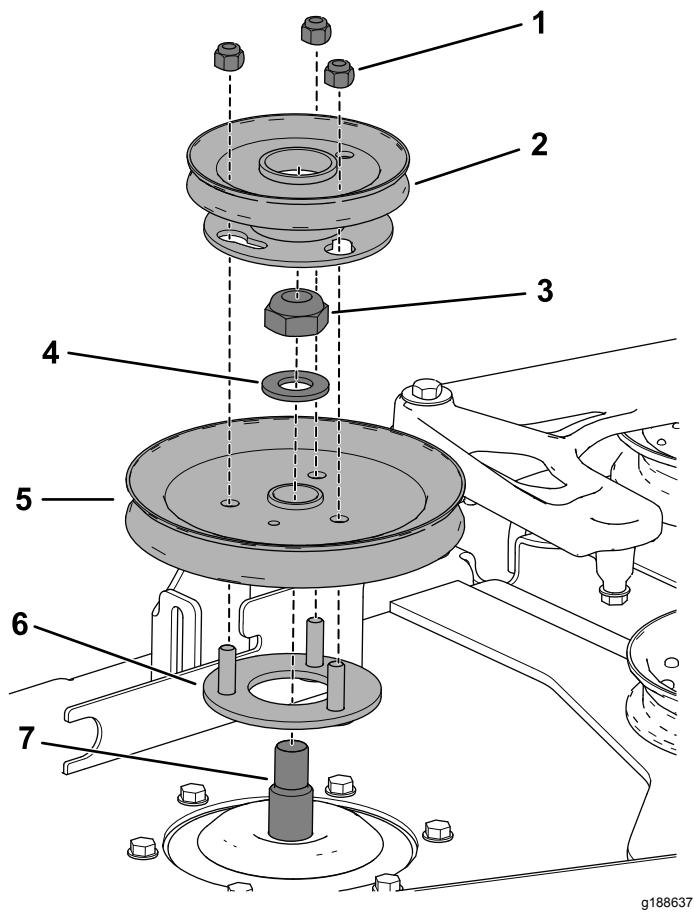

Figure 12
- Insert the threaded studs on pulley mount through the holes in the deck pulley (Figure 12).
- Use the locknut (3/4 inch) and washer that you set aside earlier to secure the deck pulley to the spindle shaft (Figure 12).
- Arrange the blower pulley onto the threaded studs and loosely install the locknut (Figure 12).